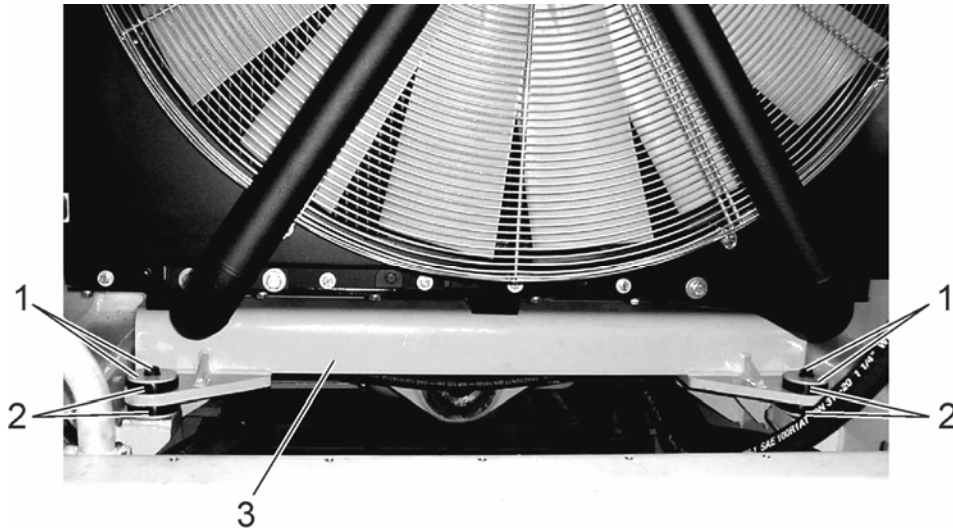

Fig. 6.8. Radiator Assy Lower Bracket (front view)
NOTE: Before mounting radiator assy remove bolts and washers (1, Fig. 6.8) and inspect rubber shock absorber (2) of radiator beam (3) for wear.